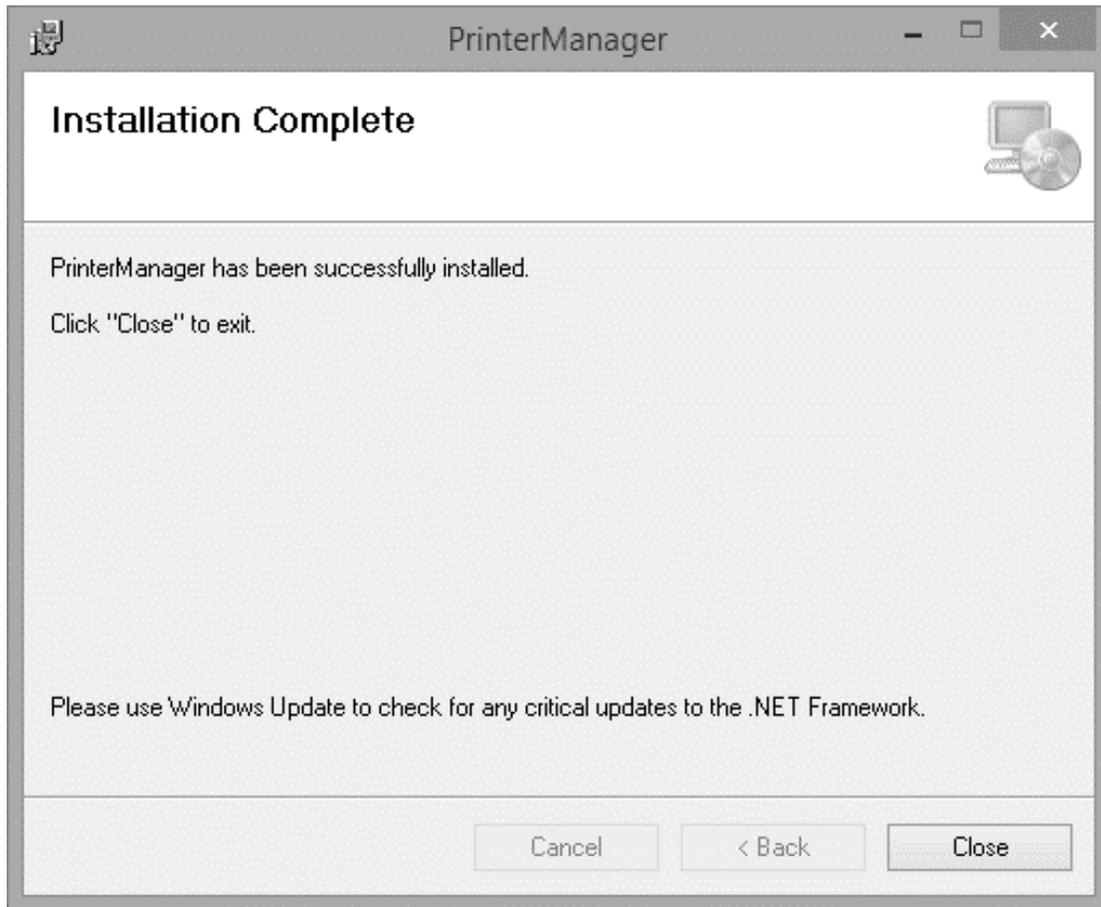

Fig 40: The Installation Complete Window
Step 7: Click on the **Close** button to close the window and complete the installation process (Refer to Fig 40).